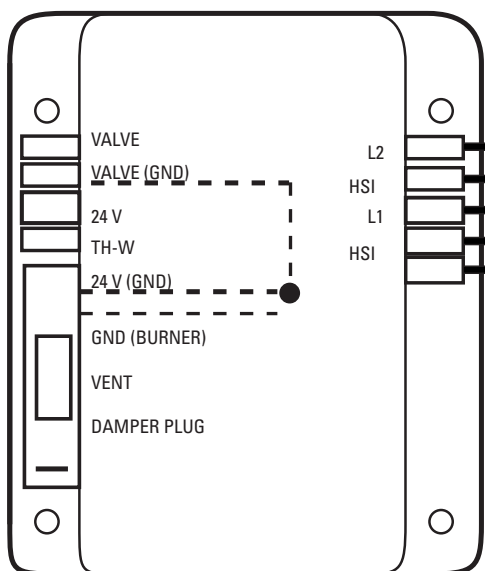

Figure 5-69 Typical hot-surface ignition module. (Courtesy Honeywell, Inc.)
The principal components of a hot-surface ignition system are the hot-surface ignition module, a line voltage silicon carbide igniter (also sometimes called a *glow stick* or *glow plug*), a remote flame sensor, a 24-volt AC ignition-detection control, and a 24-volt (AC) redundant gas valve (see Figure 5-69). The flame sensor is designed to detect the presence of a flame. It can be mounted remotely on multiple burners or next to the gas burner.